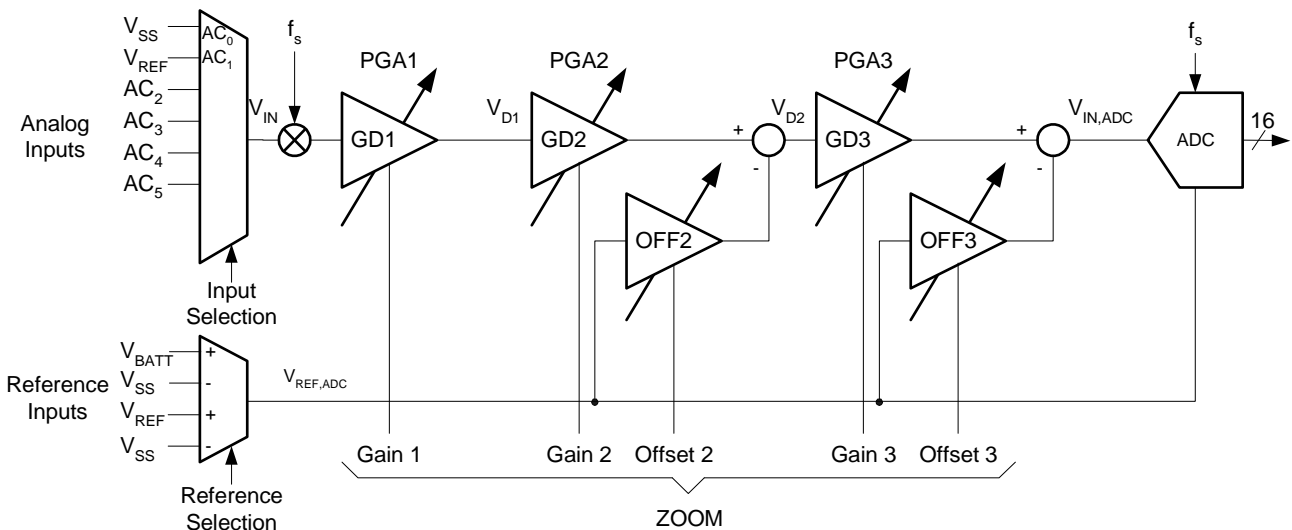

Figure 8 - ZADC General Functional Block Diagram
Figure 8 shows the general block diagram of the acquisition chain (AC). A control block (not shown in Figure 8) manages all communications with the I2C peripheral. The clocking is derived from the internal 4 MHz Oscillator.
As seen in Figure 8, the zooming function is implemented with three programmable gain amplifiers (PGA). These are: